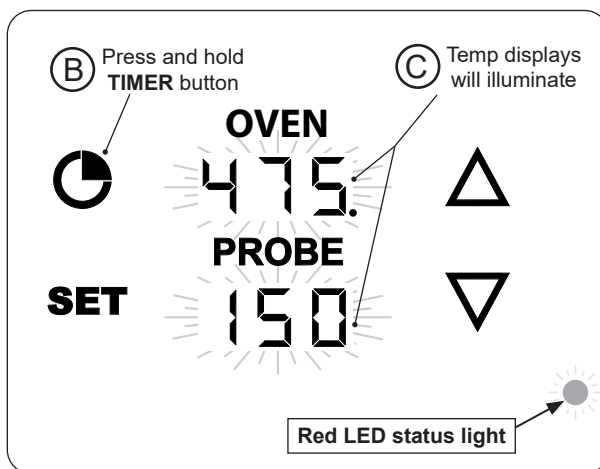

Fig. 35-2 Turn on thermostat
3. Press and hold the **TIMER** button (see Fig. 35-2, B) until the remainder of the displays illuminate (see Fig. 35-2, C). (The red LED status light indicates the unit is in the lighting process.)
**For your convenience and safety, when the ignition system is lighting the unit AND when the burners are lit, the red LED status light will illuminate (see Fig. 35-2).**